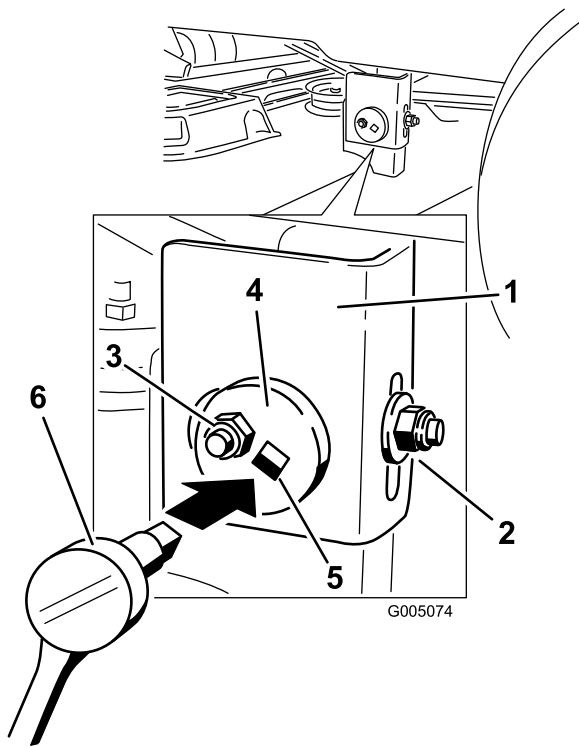

Figure 39
7. At the left side of the machine. Loosen, but do not remove, the rear locking nut on the hanger bracket (Figure 39).
8. Loosen the side locking nut on the hanger bracket just enough to allow the centric plate to be adjusted (Figure 39). Use a 3/8 inch drive extension on a socket wrench to manipulate the centric plate. Use the wrench to reposition the height of the mower deck and adjust to the desired height.
9. Stop the deck at the adjusted position and tighten the side locking nut on the hanger bracket to hold the new position (Figure 39).